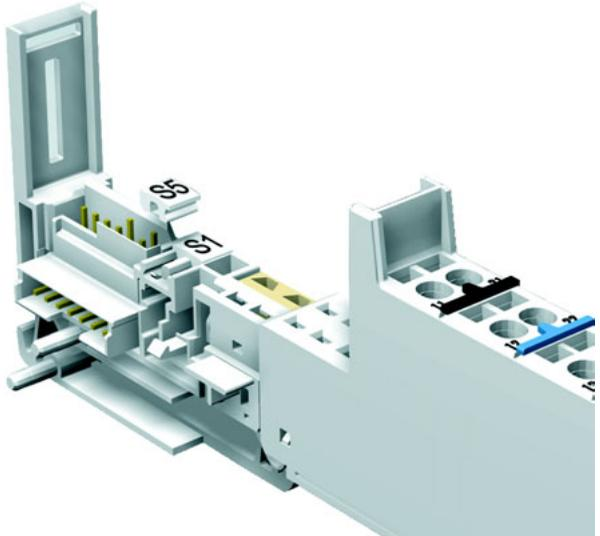

Figure 280: Mounting slot identification using Dekafix
- ▶ Press the Dekafix labels into the recesses provided in the base module (see Figure 280).